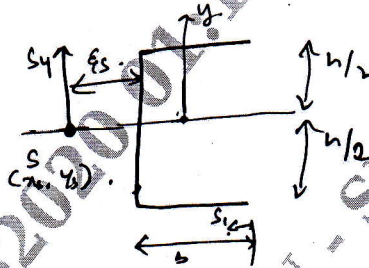

Fig.Q6(b)
- b. Calculate the position of shear centre of thin walled channel section shown in Fig.Q6(b), thickness being constant.